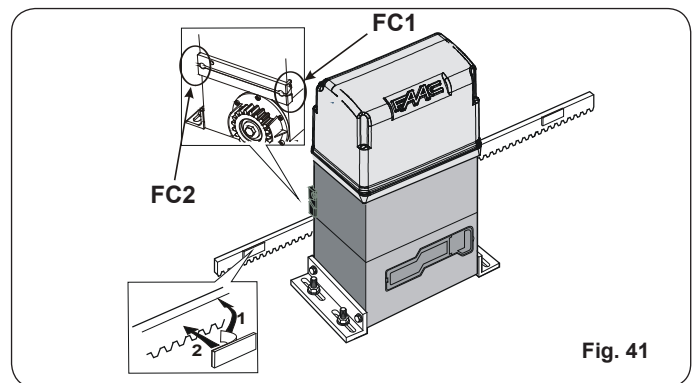
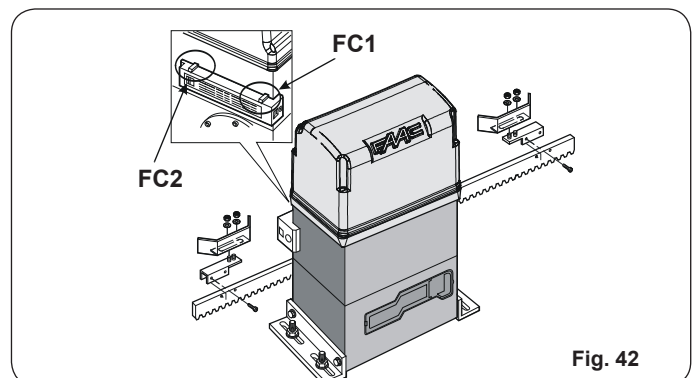

Fig. 41
Fig. 42
Operator 844 has a limit sensor switch which, by detecting the transit of a reference applied to the rack, commands the motor to stop. The device can be magnetic (Fig. 41) or inductive (Fig. 42).
10. Clean the rack on its fitting points, remove the film on the adhesive parts of the magnets (Fig. 41 Ref. 1) and re-position the magnets with the adhesive strip in contact with the rack (Fig. 41 Ref. 2).
1. Assemble the limit-switch by centering the plate with respect to the threaded pins of the support (Fig. 42).